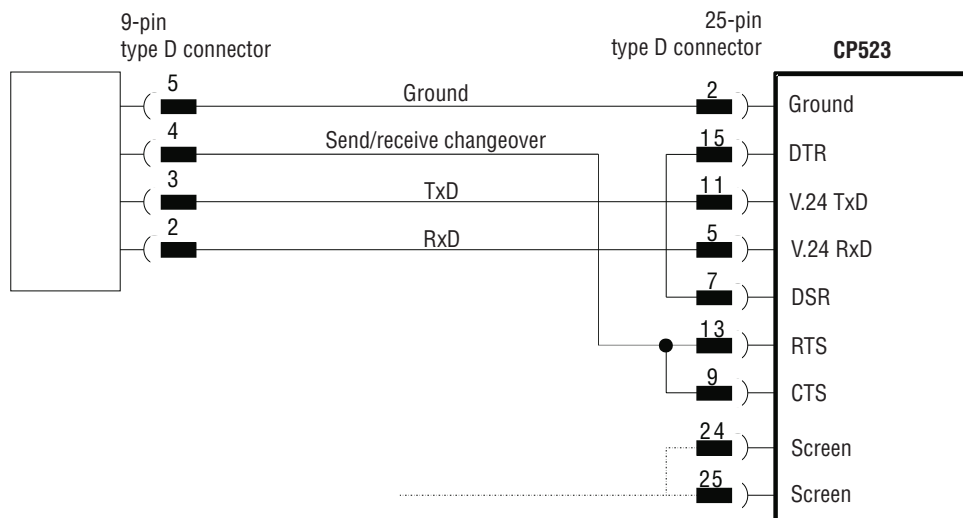

Figure 9: Pin assignment of the interface cable for the CP523 - MOVIDYN®
- 1 interface cable (see Fig. 9)